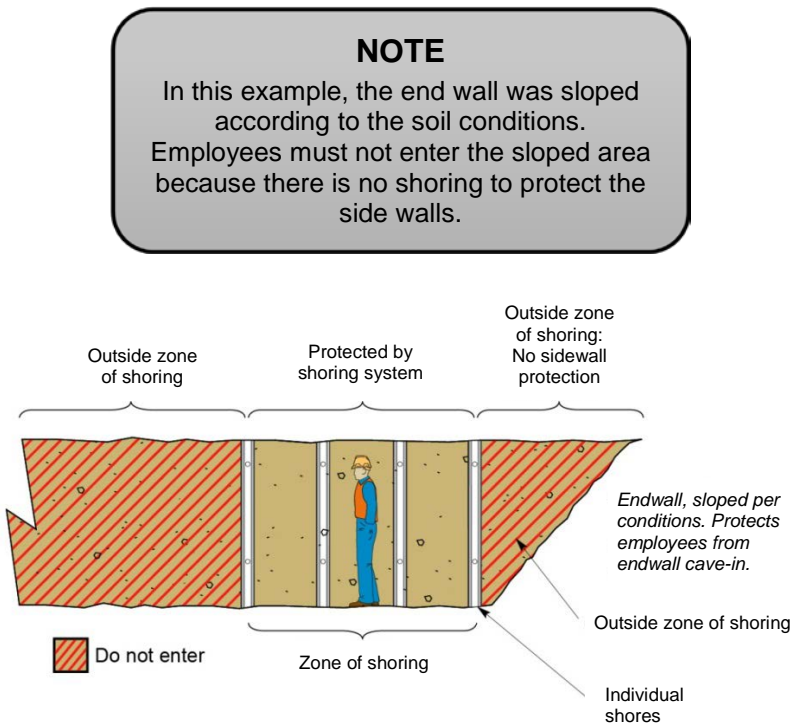

Figure 3-4. Zone of shoring
In Figure 3-4, the four shores create a zone of shoring. Employees who are between any two shores are **inside** the area protected by the zone of shoring. An employee who is not between two shores would be outside the zone of shoring. Always work inside the zone of shoring.
- Always work inside the zone of shoring. See Part 3, “Working Safely,” Section 3, Figure 3-4.